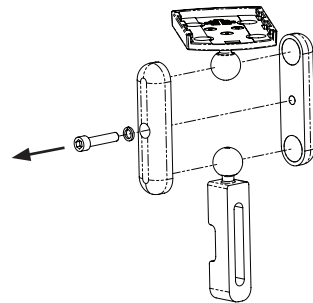

Figure 2
3. Using the 5/32" Hex Key, remove the *Positioning Screw* and *Positioning Lock Washer* to disassemble the Mount as shown in **Figure 2**.